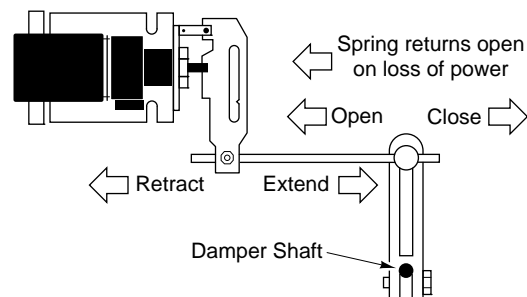
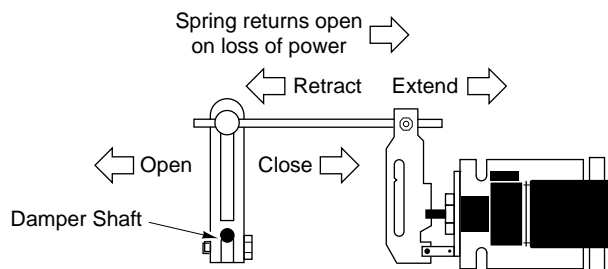

Figure-14 Dampers Open When Actuator Retracts (Spring-Returns Open on Power Loss).
Figure-15 Dampers Open When Actuator Extends (Spring-Returns Closed on Power Loss).
- a. Determine, from the system requirements, if the damper should spring-return to the open position (Figure-14) or closed position (Figure-15) whenever power is lost to the actuator. An actuator is normally linked so as to retract (spring-return) to the damper's fully open position (heat position).